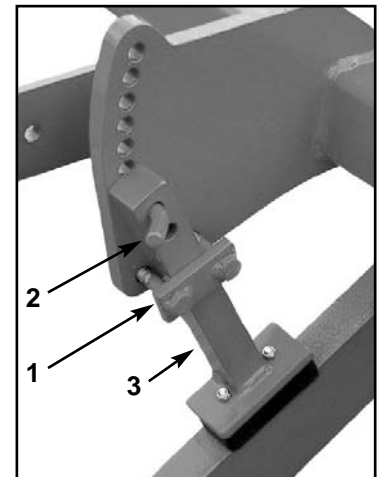

Fig 1
- b Loosen the M12 nyloc nuts on the clamp plate assembly (1).
- c Remove the R clip and pin (2).
- d Adjust the wheel retraction stop (3).
- Refer Fig 1.